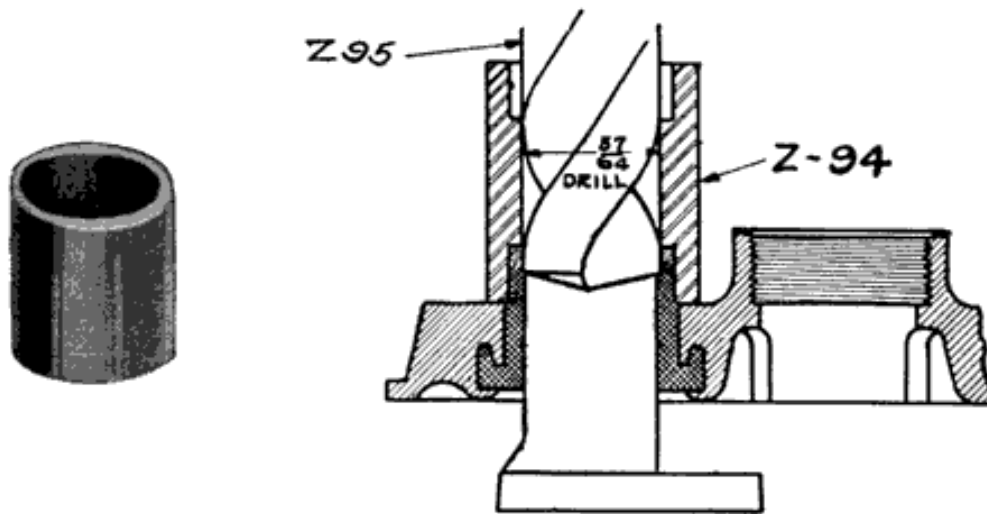

Fig. 280. Willard Jig Z-94, and How it Is Used
3. With a $57/64$ inch drill, and Willard jig Z-94 (Fig. 280), drill down to release the post from the cover insert.